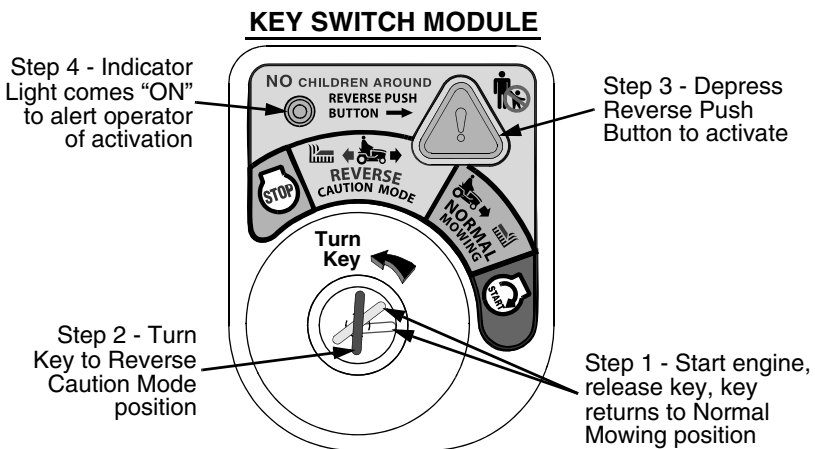

Figure 10
(Yellow) position of the key switch module. Refer to Figure 10.
3. Depress the **REVERSE PUSH BUTTON** (Orange/Triangular Button) at the top/right corner of the key switch module. The red indicator light at the top/left corner of the key switch module will be "ON" while activated. Refer to Figure 10.